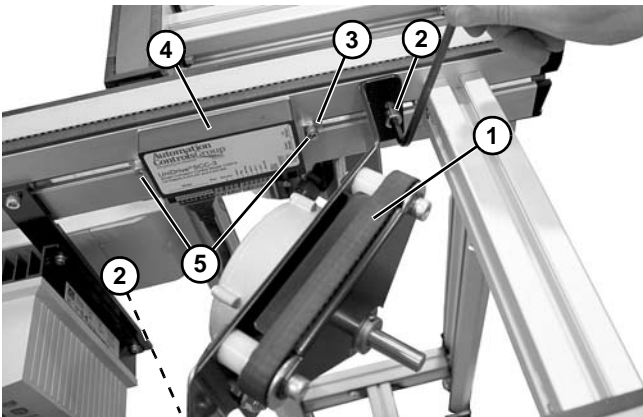

Figure 71
2. Install drive motor unit (**Figure 71, item 1**) to conveyor section with socket head screws (**Figure 71, item 2**). Do not tighten screws.
3. Install drop-in tee bar (**Figure 71, item 3**) in conveyor rail channel. Install drive control (**Figure 71, item 4**) with socket head screws (**Figure 71, item 5**).